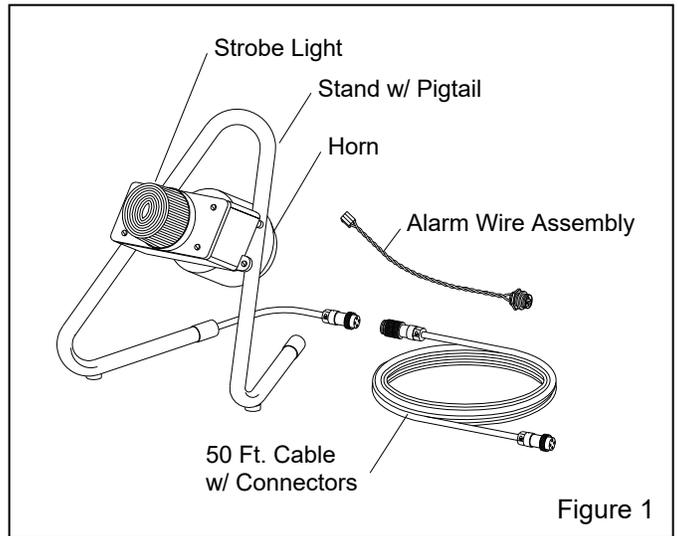

Figure 1
1.4.1 The primary components of the remote alarm are shown in Figure 1. The alarm package includes the alarm case with strobe light and horn, stand, 50-ft. cable with connectors, and a wire assembly with pin socket and cable connector.